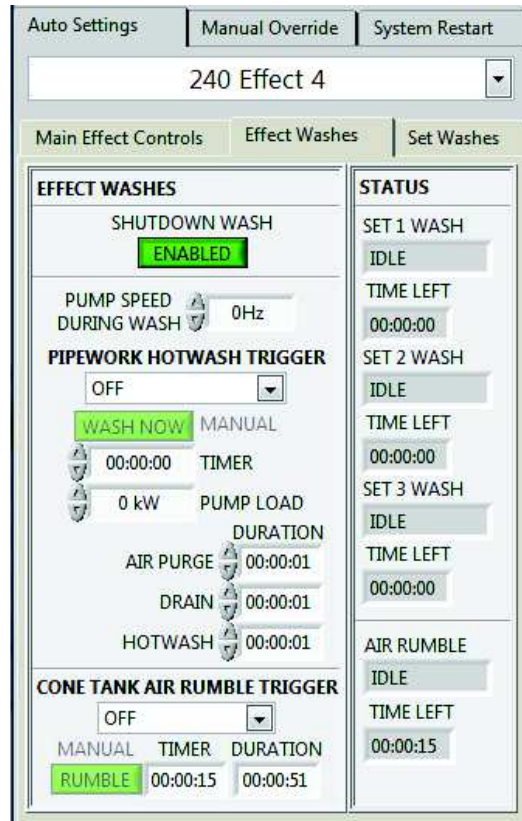

Figure 34: Enabling Shutdown Wash⁴
1. In each of the effect Tabs (effect 1, 2, 3, and 4) ensure that the SHUTDOWN WASH is enabled (Figure 34).